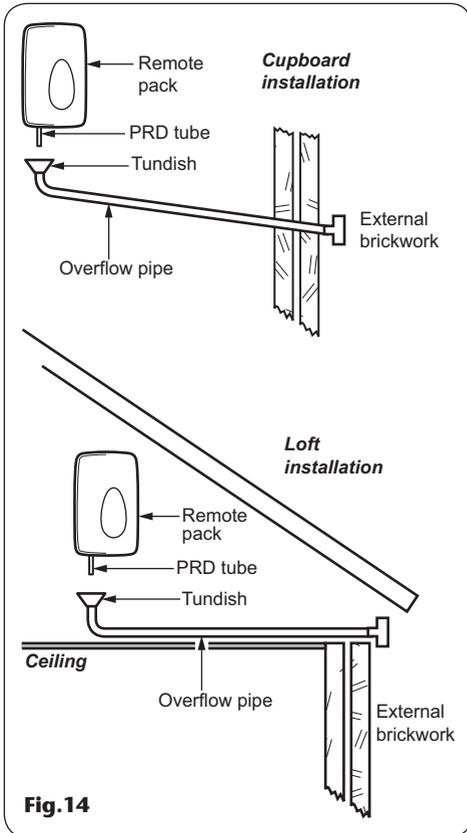

Fig.14
**IMPORTANT:** If the PRD operates, then water will eject from the clear PRD tube, so make sure the tube, when eventually installed, is routed carefully to waste e.g. via a tundish and pipework directed to an external point (**Fig.14**).